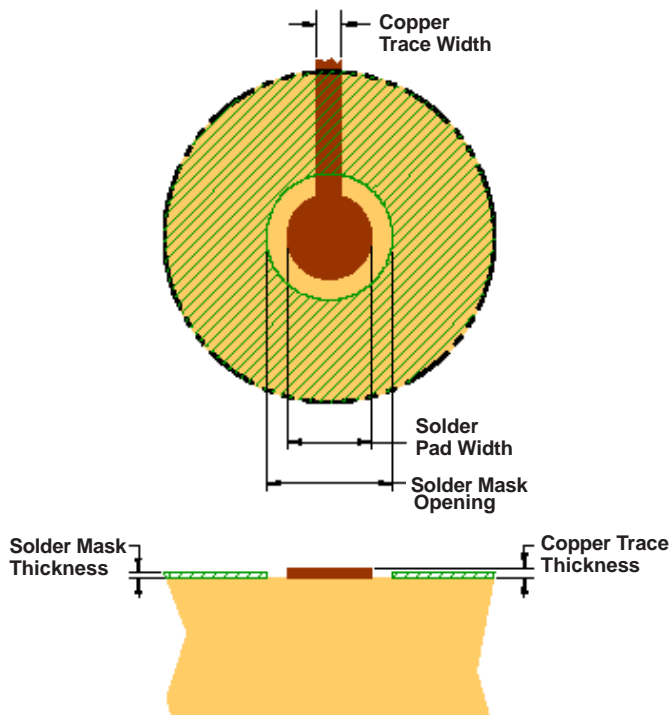

Figure 61. Land Pattern Dimensions
- When creating the pad size for the WCSP pins, TI recommends that the PCB layout use nonsolder mask-defined (NSMD) land. With this method, the solder mask opening is made larger than the desired land area and the opening size is defined by the copper pad width. Figure 61 shows and Table 32 lists appropriate diameters for a wafer-chip scale package (WCSP) layout.